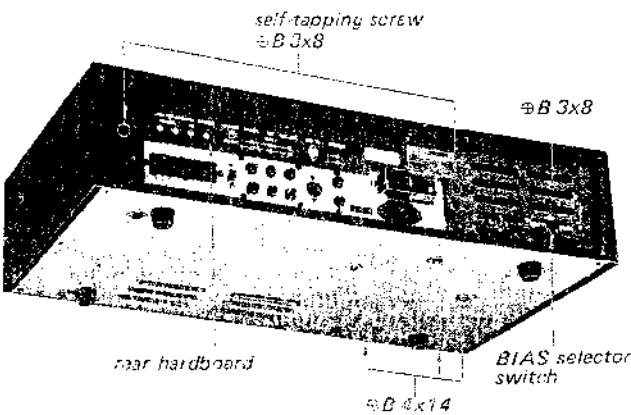

Fig. 2-2. Cassette deck removal
1. Remove the two self-tapping screws ($\oplus B3 \times 8$) securing the rear hardboard to the chassis as shown in Fig. 2-2.
5. Remove the three screws ($\oplus B4 \times 14$) securing the cassette deck to the wooden case as shown in Fig. 2-2.